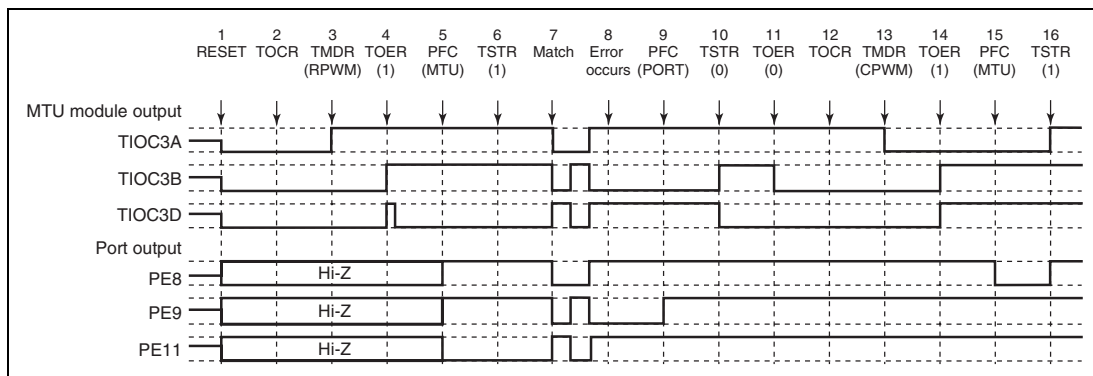

**Figure 11.112 Error Occurrence in Reset-Synchronous PWM Mode, Recovery in Complementary PWM Mode**
**Operation when Error Occurs during Reset-Synchronous PWM Mode Operation, and Operation is Restarted in Complementary PWM Mode:** Figure 11.112 shows an explanatory diagram of the case where an error occurs in reset-synchronous PWM mode and operation is restarted in complementary PWM mode after re-setting.